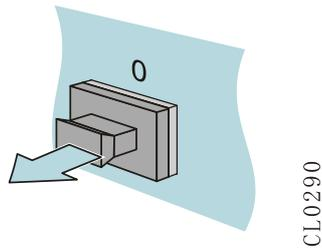

FIGURE 4-8 PULL OUT THE DUST PLUG
- Step 2: Pull out the dust plug on the optical port of the wireless controller, as shown in Figure 4-8.